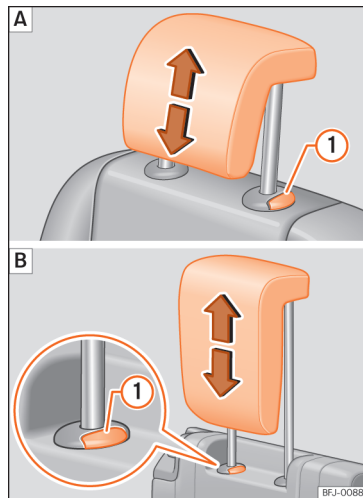

Fig. 145 Removal of the rear head restraints:
- Remove the head restraint completely while pressing button »» Fig. 145 **1**.